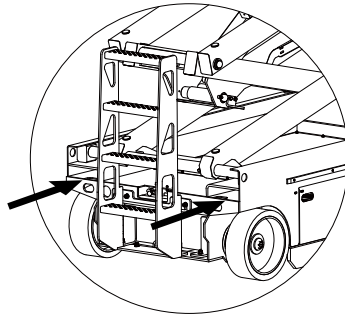

Figure 4-3 Forklift pockets
- 3) Use the forklift pockets located on both sides of the ladder. See Figure 4-3.